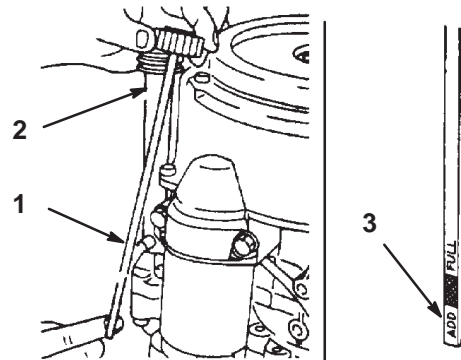

Figure 36
2. Clean around the oil dipstick (Fig. 36) so dirt cannot fall into the filler hole and damage the engine.
3. Unscrew the oil dipstick and wipe the end clean (Fig. 36).
4. Slide the oil dipstick fully into the filler tube, do not thread onto tube (Fig. 36). Pull the dipstick out and look at the end. If oil level is low, slowly pour only enough oil into the filler tube to raise the level to the *full* mark.
6. Slowly pour approximately 80% of the specified oil into the filler cap (Fig. 36). Refer to Servicing the Engine Oil, page 29.